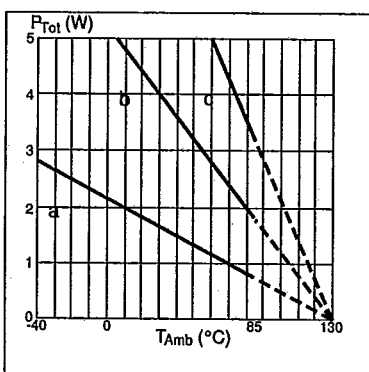

Figure 13. Allowable power dissipation vs. ambient temperature:
- The ambient temperature sets the maximum allowable power dissipation in the driver, which relates to the driver current. For PBD 3548/1, without any measures taken to reduce the chip temperature via heatsinks, the allowable power dissipation vs. temperature follows curve "a" in figure 13.